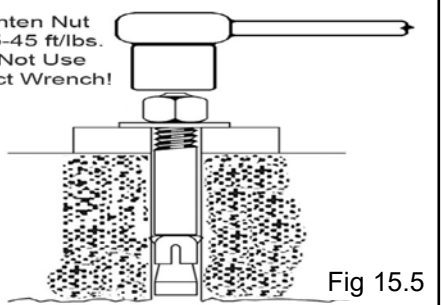

Fig 15.5
6. After any necessary shims are installed, tighten each nut to 35-45 ft./lbs. **IMPORTANT** - If anchor bolts do hold when torqued to required amount, concrete must be replaced. Saw cut and remove 24" x 24" square area each column base then re-pour with reinforced 2500 concrete to a depth of six inches minimum, keying new concrete under existing floor. (See Fig. 15.5)